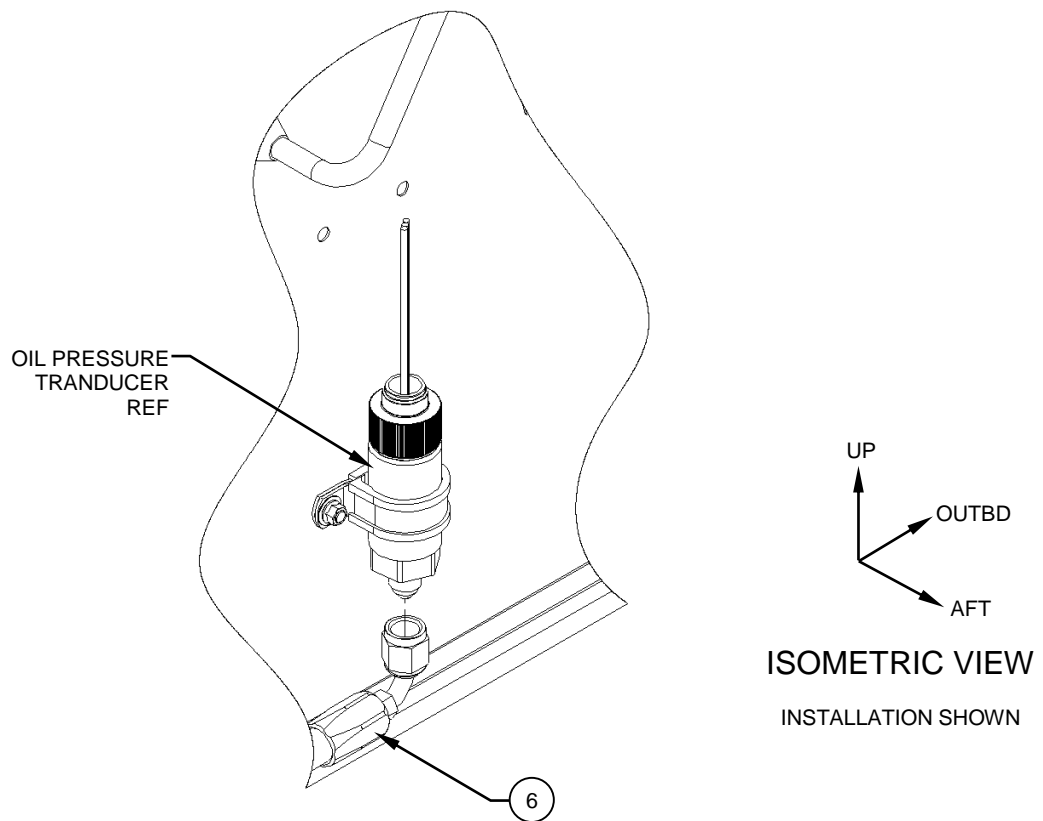

Figure 7
10. Fasten the Hose, Assy (Item 6) to the oil pressure transducer. Reference Figure 7.
11. Bleed the air from the Hose, Assy (Item 6) by starting the modified engine and loosening the hose fitting common to the transmitter until positive oil flow is established. Re-tighten the hose fitting and safety- wire. Reference Figures 7.